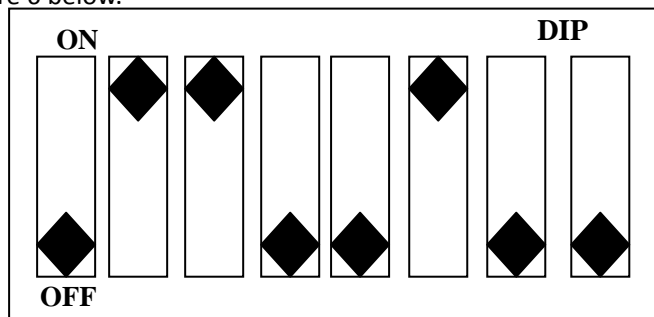

Figure 6
**C. “DIP” Switch:** P.C. board is equipped with 8 “DIP” switches, which do not need to be adjusted in normal operation, all switches are set to OFF position except No.2, No.3 and No.6 switch to ON position, as shown in Figure 6 below.